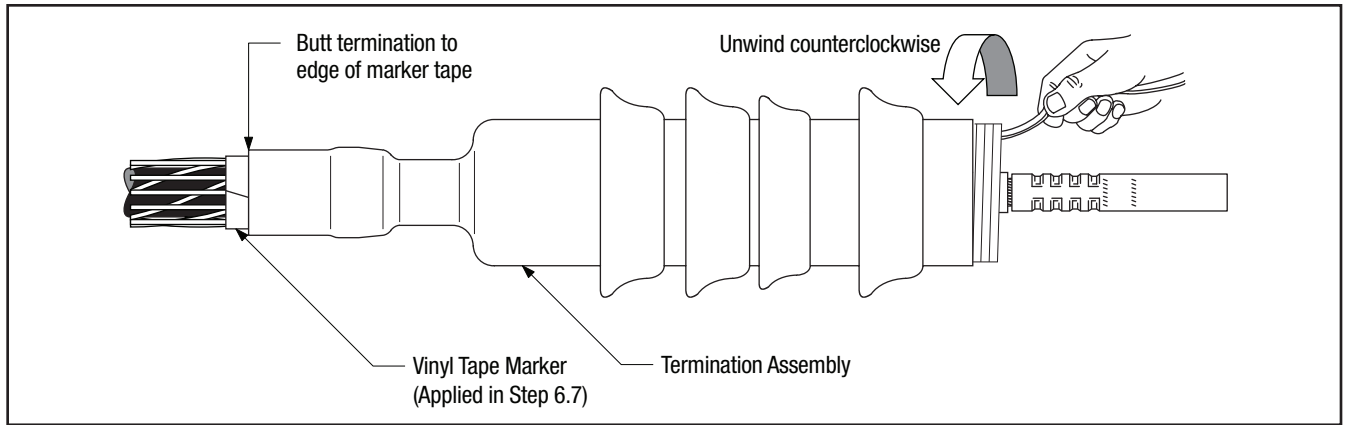

Figure 12
9.1 Slide the termination body onto the cable and remove core. Make sure the termination body (not the core) is butted up to the edge of the vinyl tape marker previously applied (Figure 12). Pull the core while unwinding, counterclockwise, starting with the loose end (Figure 12). Be sure to alternate the pulling and unwinding actions (pull-unwind-pull-unwind-etc.) to help prevent the core material from binding up as the core is being removed